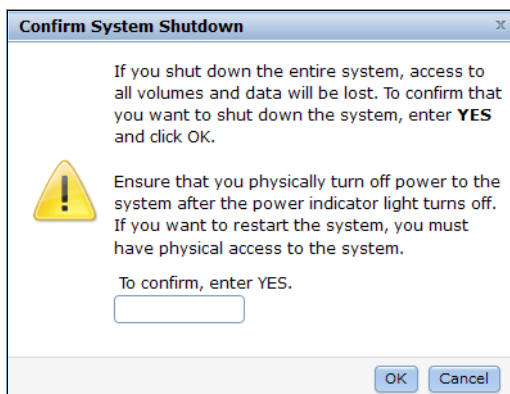

Figure 13-55 Confirmation to start the shutdown process
**Important:** Ensure that you have stopped all FlashCopy mappings, Remote Copy relationships, data migration operations, and forced deletions before continuing. Click **Yes** to begin the shutdown process, as shown in Figure 13-55.